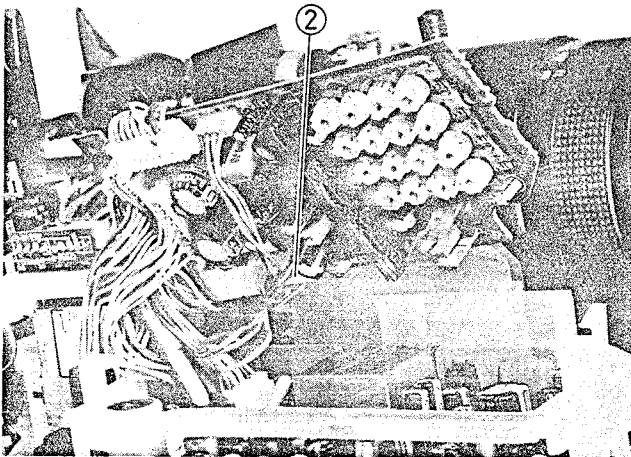

Fig. 2-29 Camera Switch Circuit Board Removal
Camera Switch Circuit Board Removal (Figs. 2-29, 2-30, 2-31)
2. Disconnect connector CN1607. (See Fig. 2-29)